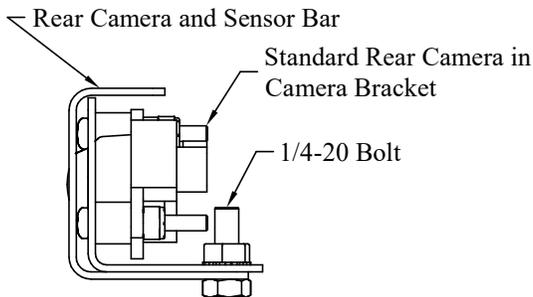

Figure 11: Standard rear camera in rear camera and sensor bar.
4. **Install** camera bracket into rear camera and sensor bar using the supplied 1/4-20 hex bolts and nuts (Figures 11 and 12).